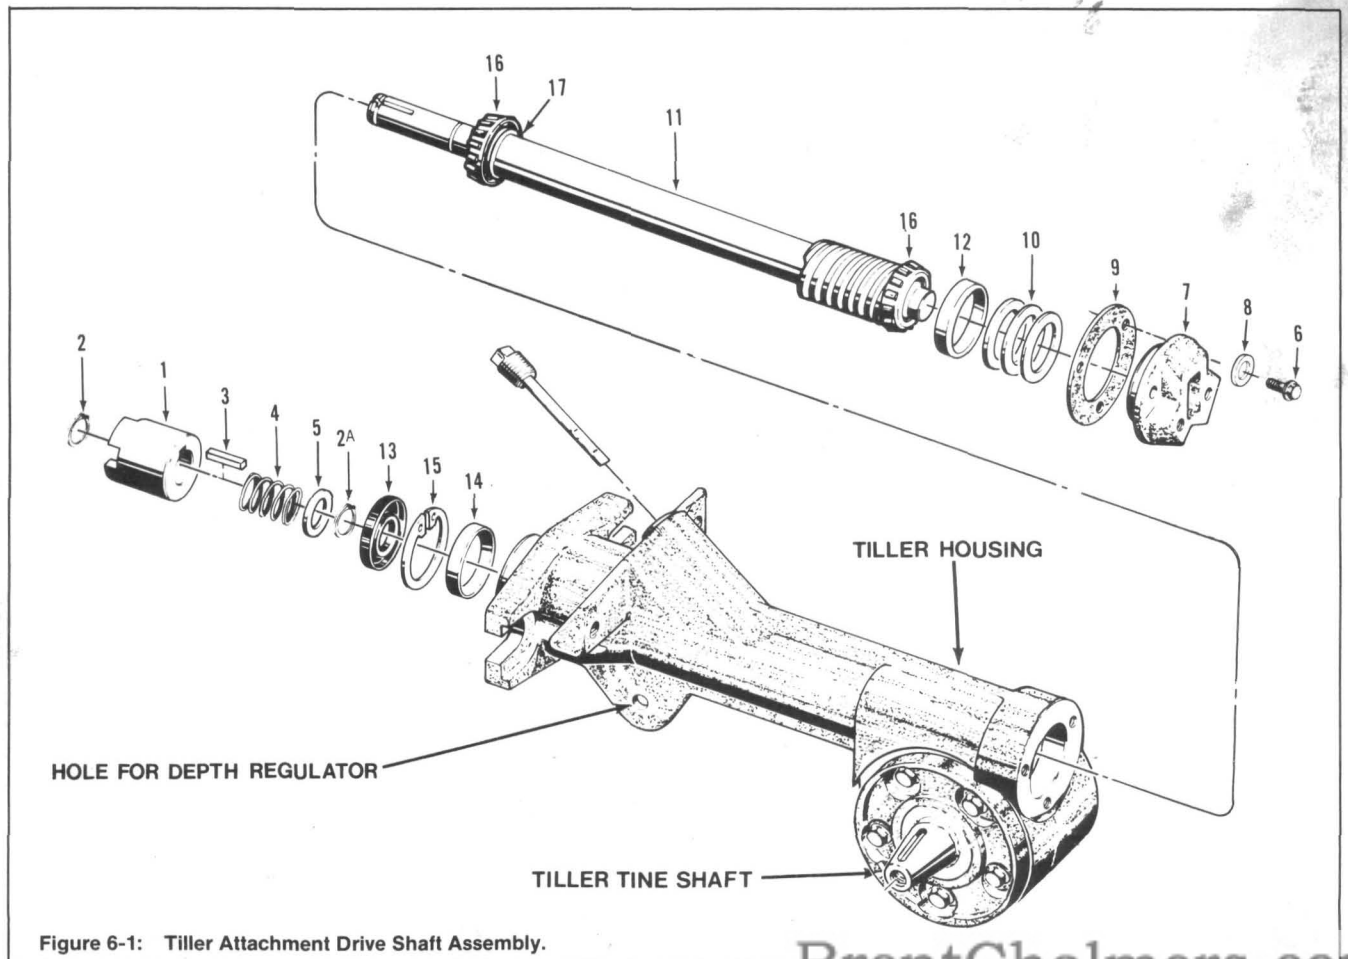

Figure 6-1: Tiller Attachment Drive Shaft Assembly.
Use Figure 6-1 as a reference for part locations in these instructions.
1. Set the tiller housing in a vise and tighten the vise jaws around the metal plate that contains the bolt hole for the depth regulator drag bar (see Figure 6-1).
2. Push the dog clutch (1) into the housing (the clutch is under spring tension) until you see the forward (external) snap ring (2) that retains the dog clutch. Then remove the snap ring with a pair of snap ring pliers.